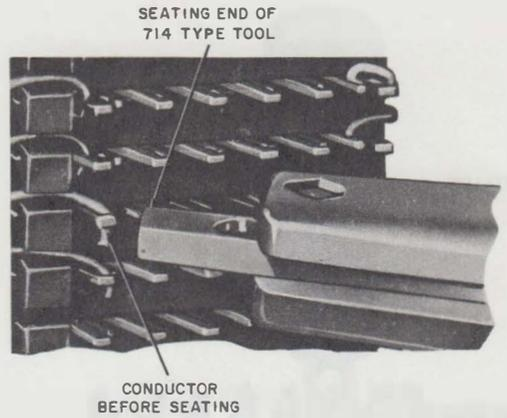

Fig. 8—Seating B Service or SK Station Wire
- (c) Place seating end of 714B or D impact tool over terminal (Fig. 8).